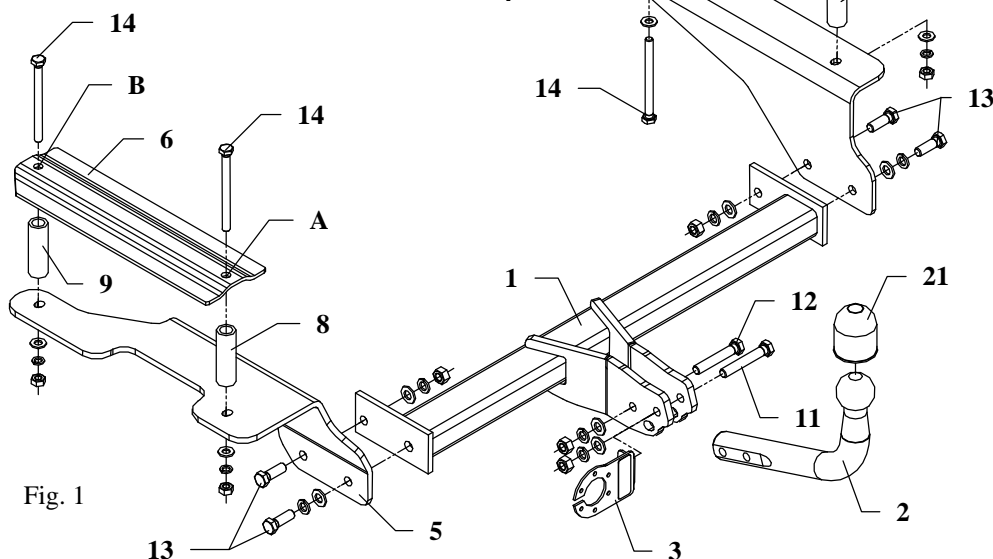
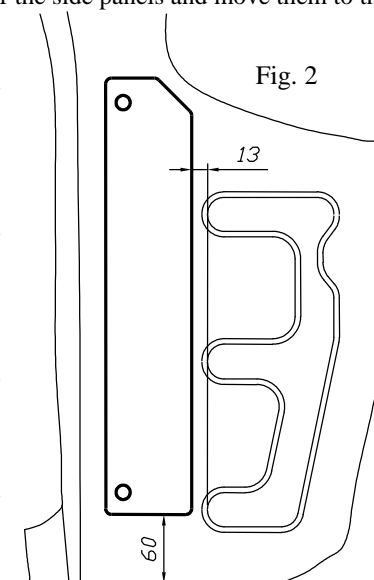

Fig. 1
Fig. 2
6. Place fish-plate (pos. 6) on the hole A.
7. Drill hole $\phi 11\text{mm}$ in point B through fish-plate (pos. 6) in the floor.
8. Place fish-plate (pos. 7) on the right side, as one showed on the fig. 2 and drill holes $\phi 11\text{mm}$ in points C and D. Make sure that the holes to be drilled match the holes on the underside of the chassis.
9. Remove fish-plates (pos. 6 and 7) and enlarge the holes from inside the boot only to $\phi 30\text{mm}$.
11. Place fish-plates (pos. 6 and 7) with three bolts M10x120mm (pos. 14) in combination with the distance sleeves (pos. 8, 9, 10) – see fig. 1.
12. Place left bracket (pos. 5) in points A and B and fix loosely.
13. Place right bracket (pos. 4) in points C and D with the fourth bolt M10x120mm (pos. 14) and fix loosely.
14. Fix the main bar of the towing hitch (pos. 1) using bolts M12x35mm (pos. 13).
15. Fix tow ball (pos. 2) using bolt M12x75mm (pos. 11) and M12x70mm (pos. 12). With bolt M12x75mm fix also a socket plate (pos. 3). See figure 1.